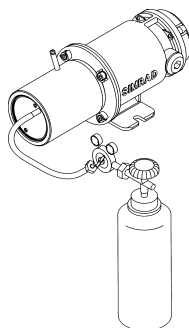

Figure 4.2 Set-up of calibration test
- Apply a certified test gas of approx. 50 % of full scale methane as shown in Fig. 4.2 below.